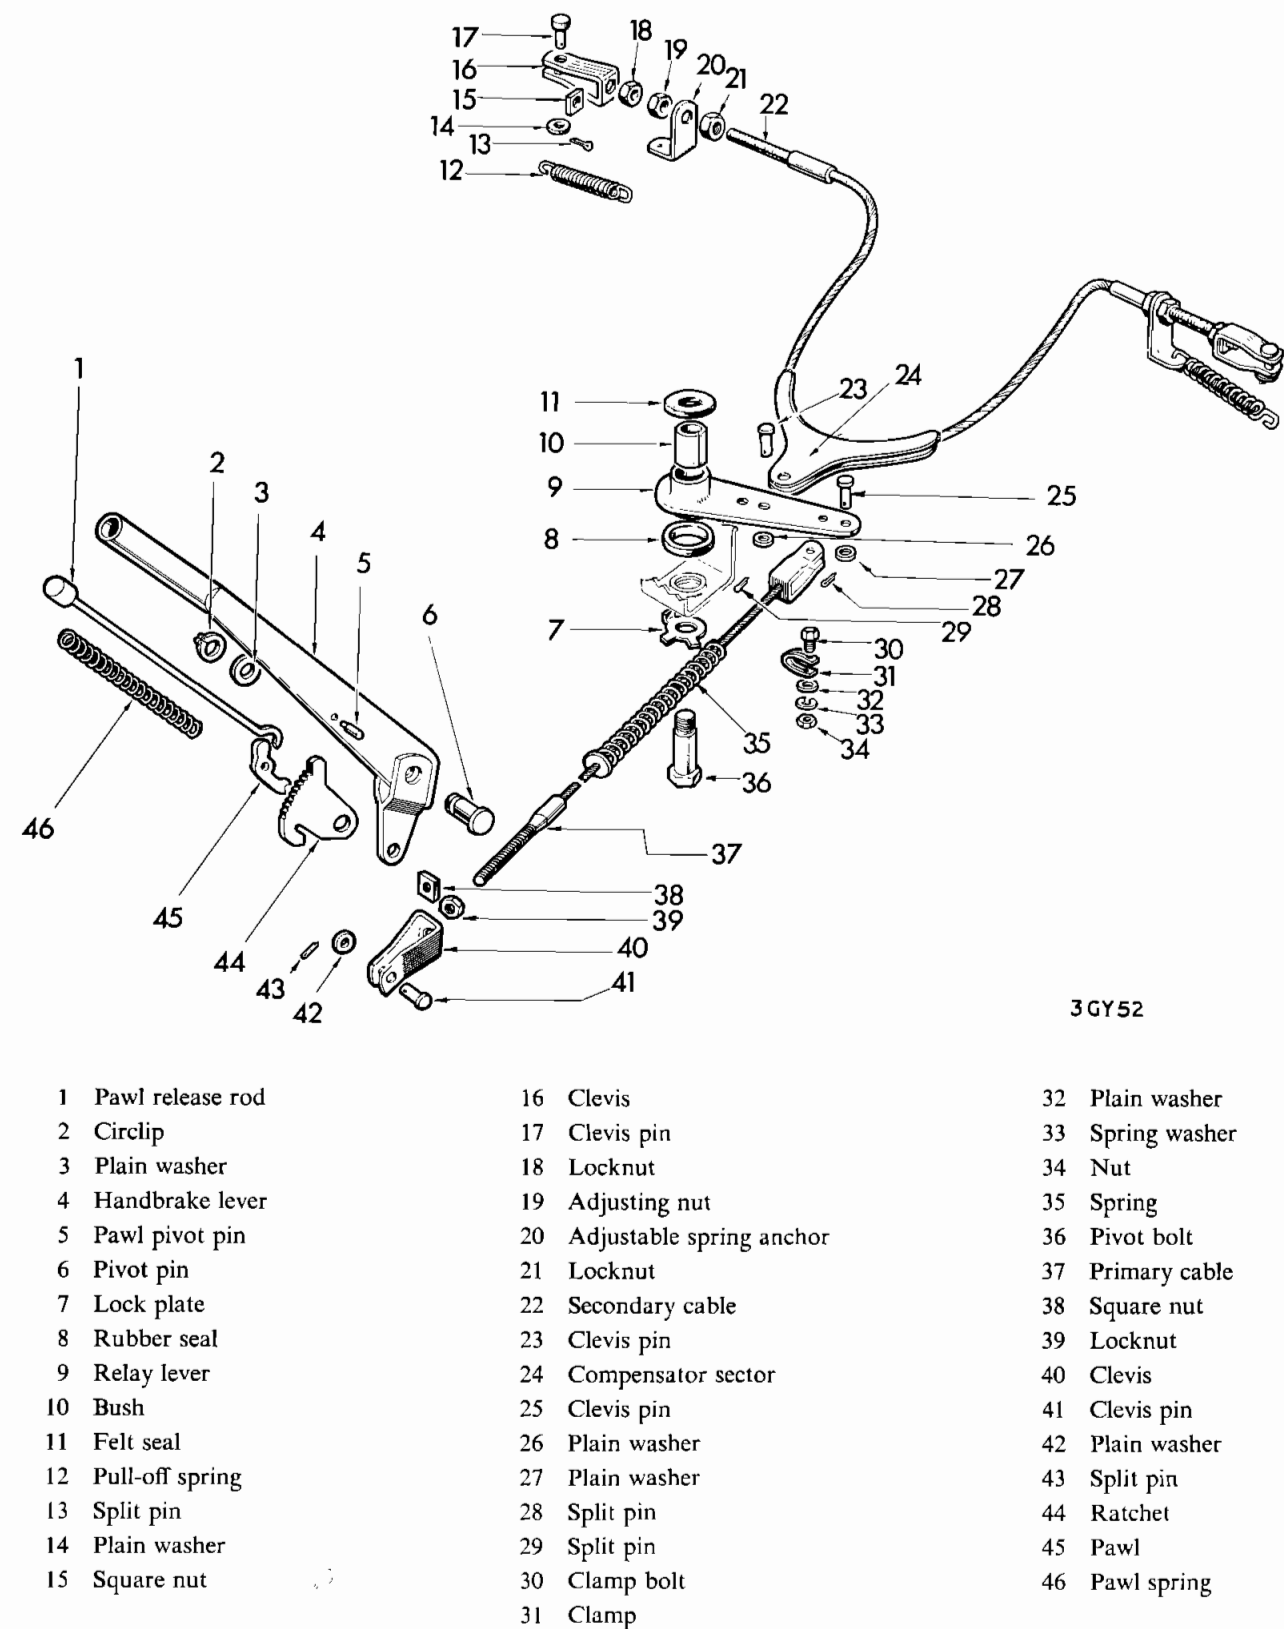

Fig. 19. Arrangement of Handbrake components
Attach the primary cable clevis fork to the outer hole of the relay lever (9). Smear the relay lever bush (10) and the pivot bolt (36) with grease, and assemble the lever to the body floor bracket, placing the felt seal (11) above the lever and the rubber seal (8) below, as shown on Fig. 19.